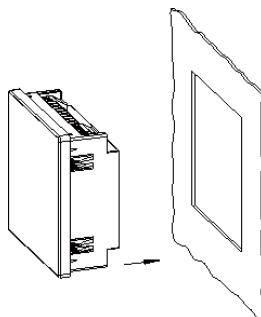

Figure 2: Insert the device
- 2.- From outside, insert the device into the panel cut-out (**Figure 2**)